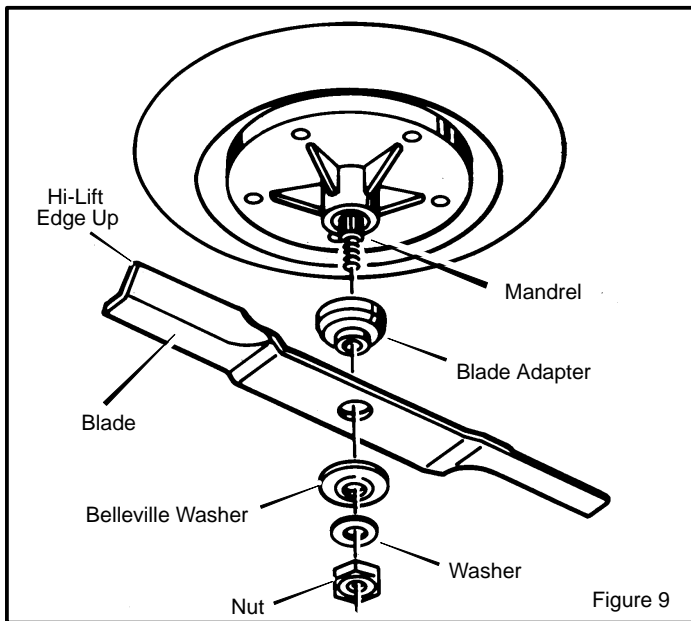

Figure 9
3. Remove the **nut** that holds the blade (Figure 9).
6. Mount the **blade** and **blade adapter** on the **mandrel** (Figure 9).